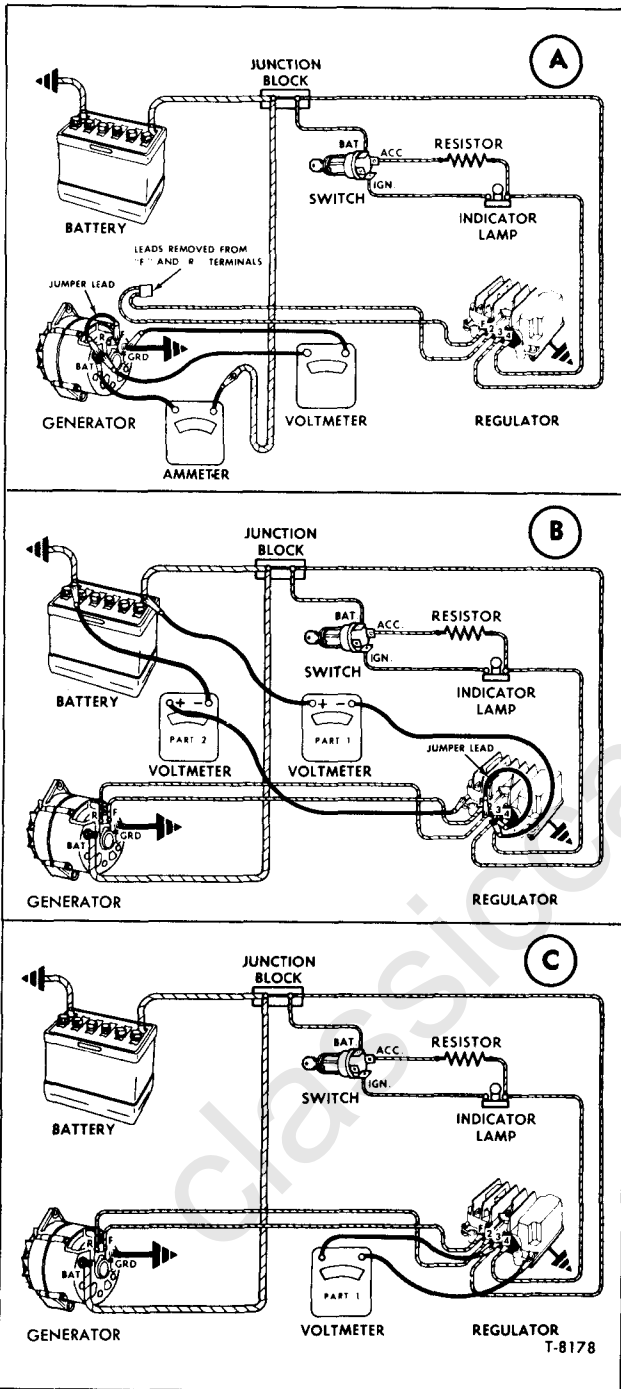

Figure 15—Connections for Testing 1116374 or 1116378 Regulator (Typical)
A typical circuit with an indicator lamp is shown in figure 15, however, the same test connections are made on vehicles equipped with the ammeter type charge indicator.
1. Disconnect wiring from generator "BAT" terminal and wiring harness connector from generator "F" and "R" terminals. Make connections as shown in View A, figure 15.
4. Make connections as shown in View B, Part 1, figure 15. Slide test prods into regulator connector body to make connections and do not leave jumper lead connected longer than five minutes.
b. Make connections as shown in View B, Part 2, figure 15, and record the voltage drop.
d. If total voltage in Step c. is below .25 volt, remove jumper lead connected between regulator No. 2 terminal and No. 3 terminal and connect voltmeter between No. 3 terminal on regulator and ground as shown in View C, figure 15.